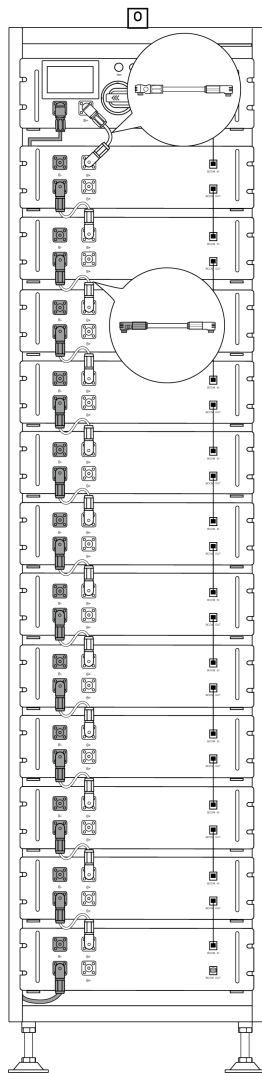
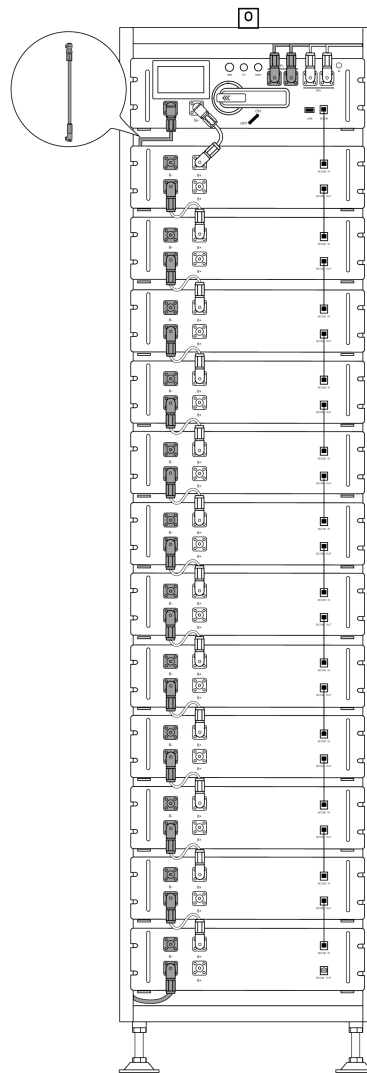

Figure 1-3
Figure 1-4
2. Bcables: See the figure 1-3 and figure 1-4.